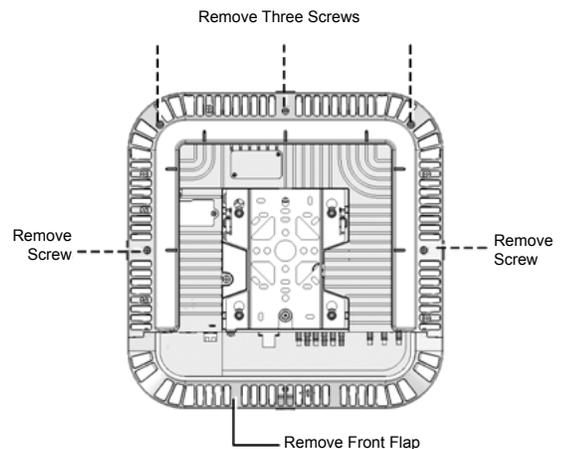

Figure 1. Removing RAU Enclosure Cover
- Step 3:** Unscrew (five) screws securing the RAU enclosure cover and remove cover. See Figure 1 for location of screws.